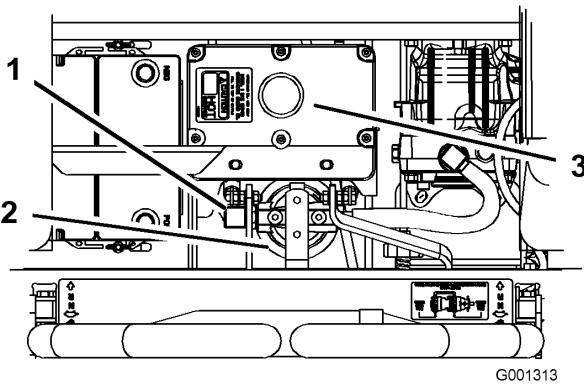

Figure 63
4. Remove the righthand hydraulic line that comes into the adapter (Figure 63).
6. Install the righthand hydraulic line to the adapter (Figure 63).